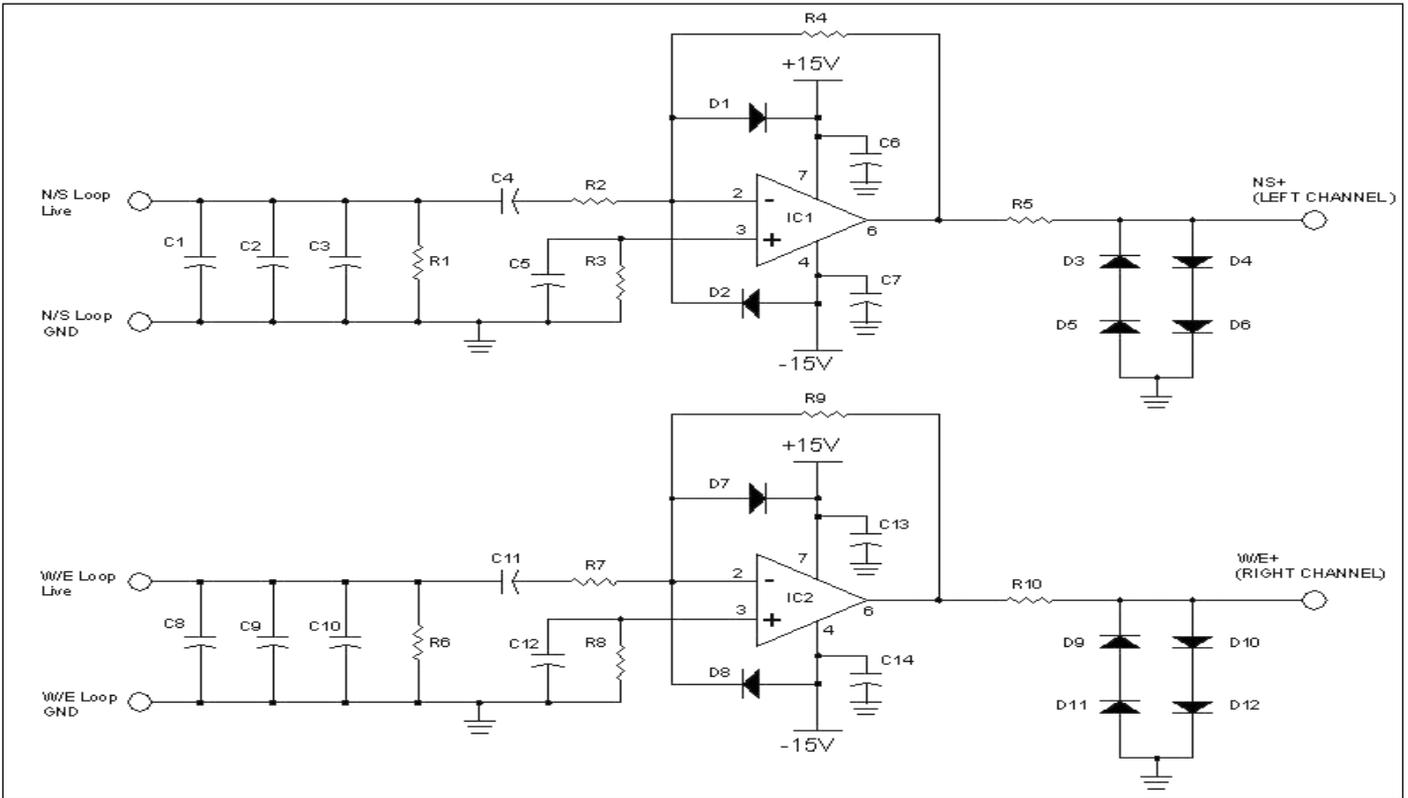
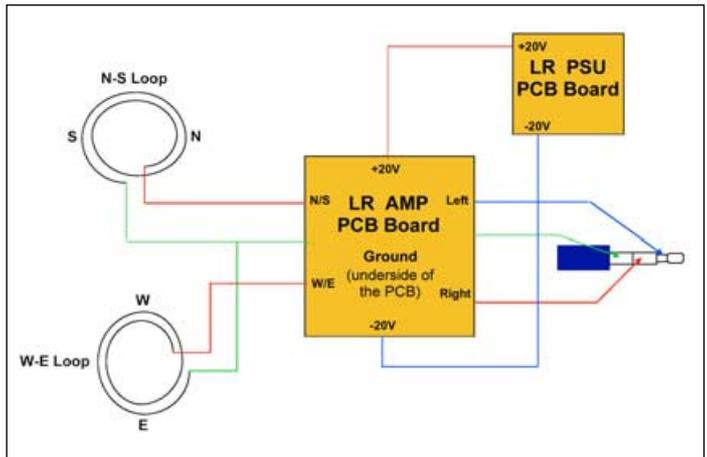
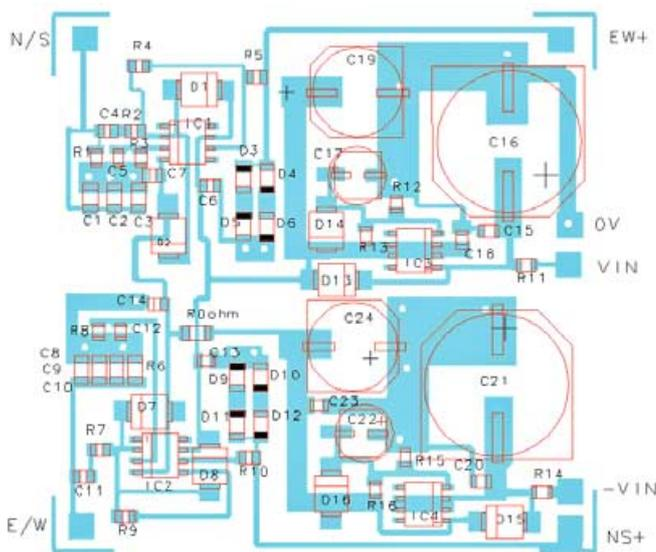

Figure 12
Figure 14 - The wiring of the LR and PSU modules to the PC and antenna.
Figure 18
If the whole system is to be sited indoors, in a loft for example, then the circuitry could be easily built on *Veroboard* using leaded components. The surface mount (SM) design described below is based on Daniel's circuit. To simplify the build of the system, I designed a surface mount version of Daniel's LR design (figure 12 and 13). The top view, with component identities, is shown in figure 18. Figure 14 shows the system connections to the PC via a stereo 3.5 mm plug. Connection between the PC/PSU and the antenna-mounted LR PCB was made via four individually screened audio leads.